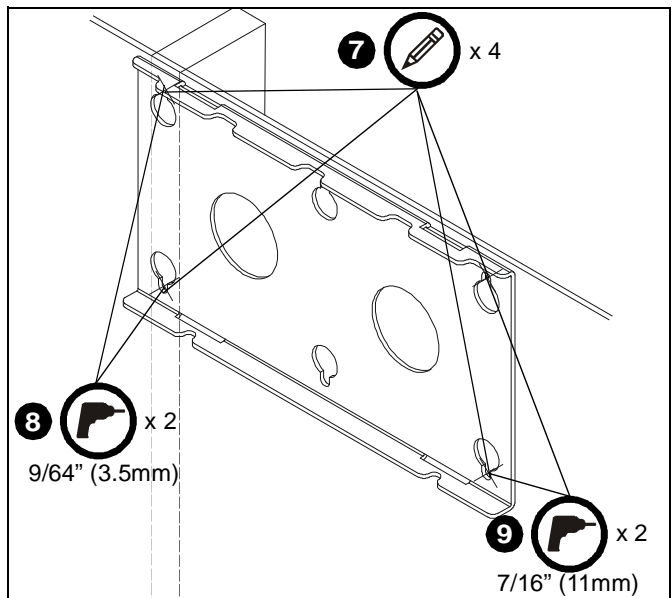

Figure 3
7. Using wall bracket (R) as a template, mark two hole locations at center of wood stud and two hole locations in drywall at desired mounting height. Use a level to ensure mount will be level. (See Figure 3)
8. Drill two 9/64" (3.5mm) holes at marked locations on wood stud. (See Figure 3)
9. Drill two 7/16" (11mm) holes at marked locations on drywall. Ensure holes are straight and completely through drywall. (See Figure 3)